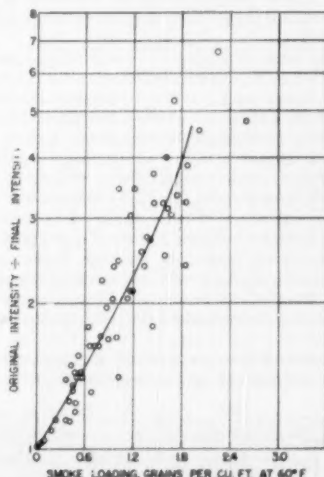
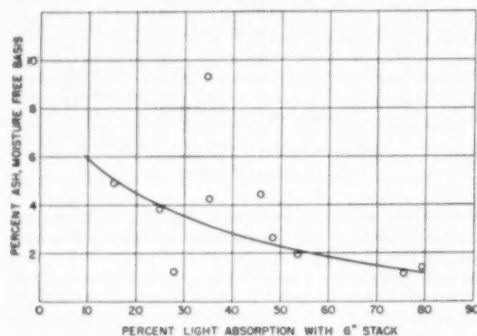

FIG. 8 ORIGINAL INTENSITY ÷ FINAL INTENSITY VERSUS SMOKE LOADING
FIG. 15 PER CENT ASH AT VARIOUS SMOKE DENSITIES
If the  $x$ -term is used to represent the concentration of solid particles, the graph of  $\ln I_0/I$  against  $x$  should show a straight line of slope  $k$  if the assumptions are correct. In the semilog plot, Fig. 8, the curve becomes more steep in the dense-smoke regions. The absorption of light in these regions, then, is greater than that expressed by the equation. A greater percentage of carbon in the dense smoke, Fig. 15, may explain this deviation, since carbon absorbs more light for a given weight than does ash.
plotting against the smoke loading, Fig. 8, would deviate downward from a straight line in the dense-smoke region. The curve, however, shows no such trend. This probably indicates that each individual particle absorbs such a small percentage of the light and that the light passes through so many aligned particles in the stack, that the clusters have little effect upon the total light absorption.
When the weight of smoke discharge, based upon light absorption, is desired, it is apparent that the percentage of ash must be considered. Although the highest ash content in the smoke from the stoker during this series of tests was only about 5 per cent, as shown in Fig. 15, operating in a more normal manner or by using coal with a large proportion of fines or pul-
**Ash Analysis.** When an ash analysis was made of the filtered solids, and the percentage of ash was plotted against the per cent light absorption as shown in Fig. 15, a trend was indicated. The ash content is lower in dense smoke than in light smoke. The smoky conditions usually were obtained with a low air supply. An increase of air generally will cause more fly ash. The dense smoke is caused by the excessive amounts